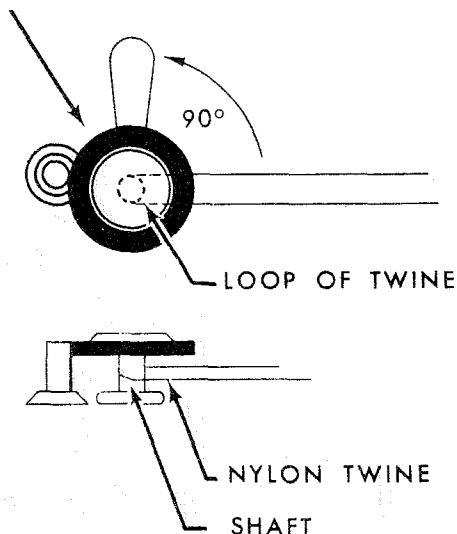

Fig. 4-3 Measuring Capstan Idler Force
Step 2: Tie the two ends of the cord or twine together, so that it forms a continuous loop. Place one end of the loop over the capstan idler and position it on the idler shaft (between the idler and arm, see Fig. 4-3).